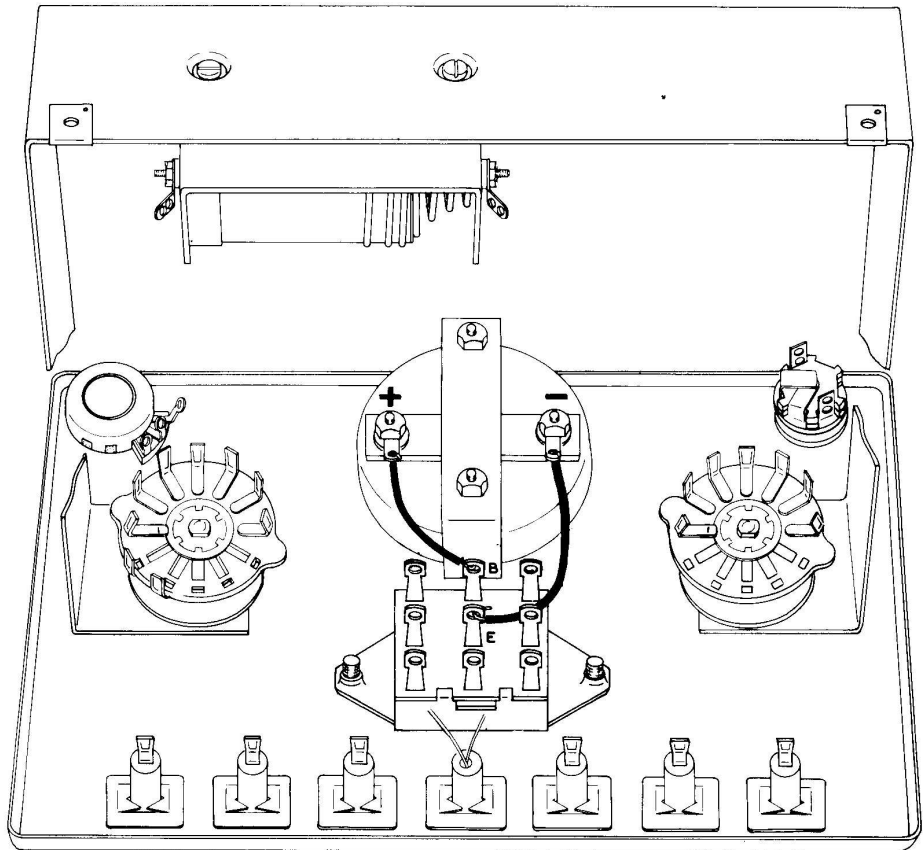

Figure 3-15
- (2) Unsolder the wire from the red banana jack. Trim this wire appropriately and resolder it to slide switch terminal (B). See Figure 3-15.
- ( ) In the same manner, unsolder the wire from the black banana jack, trim and resolder it to slide switch terminal (E), Figure 3-15.